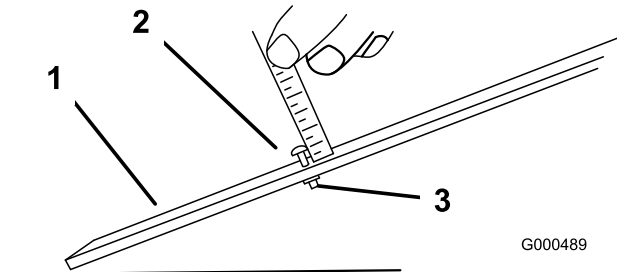

Figure 48
3. Loosen the nut on the gauge bar (Figure 48) and set the adjusting screw to the desired height-of-cut. The distance between the bottom of the screw head and the face of the bar is the height-of-cut.